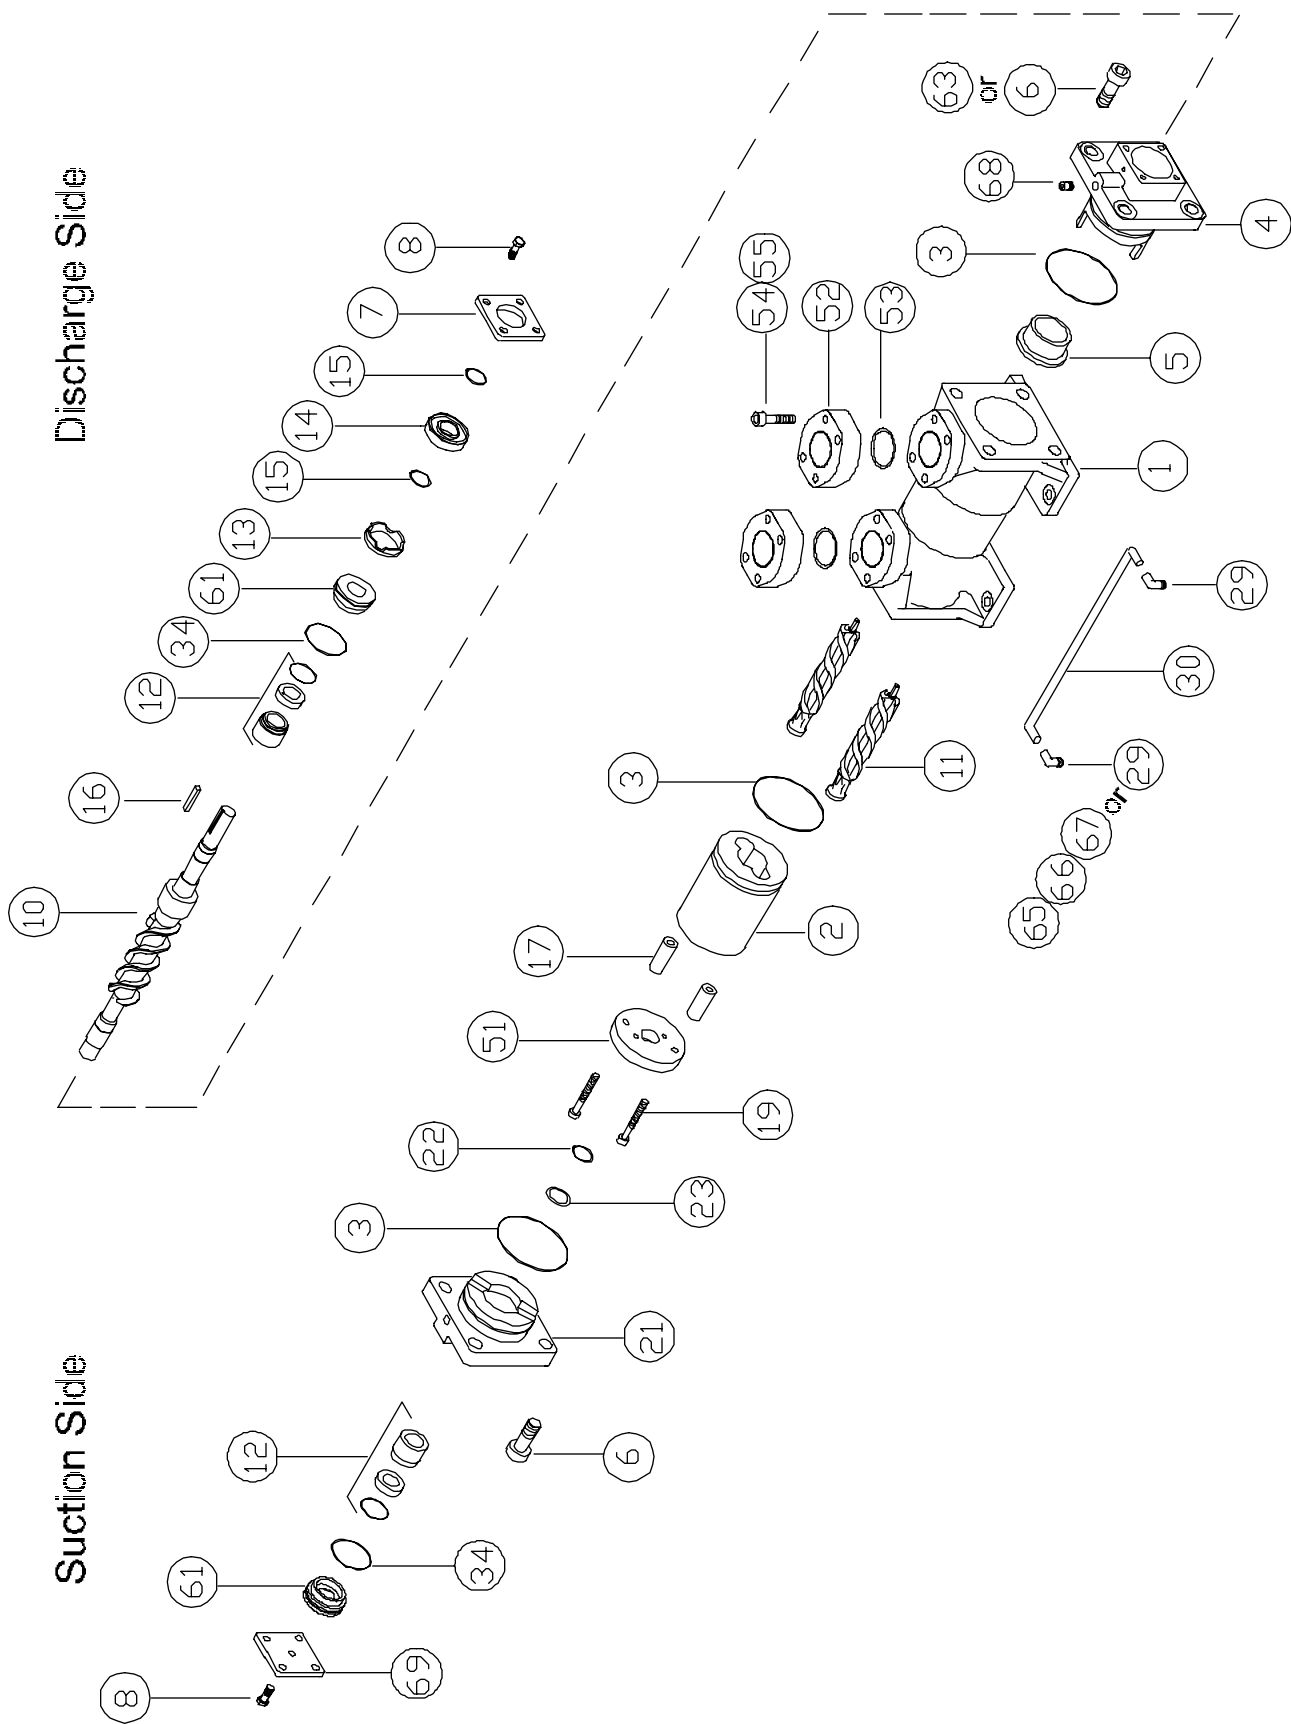

Figure 5 – E3LB and E3LBK-187 and -200 Assembly
STEP 1 Remove Outboard Cover and Mechanical Seal (Suction Side) – See Figure 5 and 3